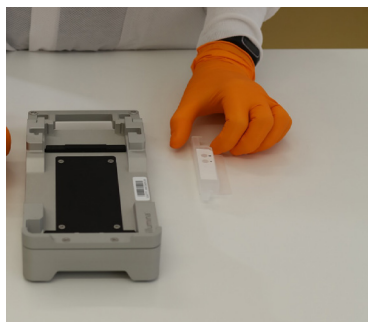

Figure 1. NovaSeq™ XP flow cell dock
1. Place the NovaSeq™ Xp flow cell dock on a flat surface (Figure 1).